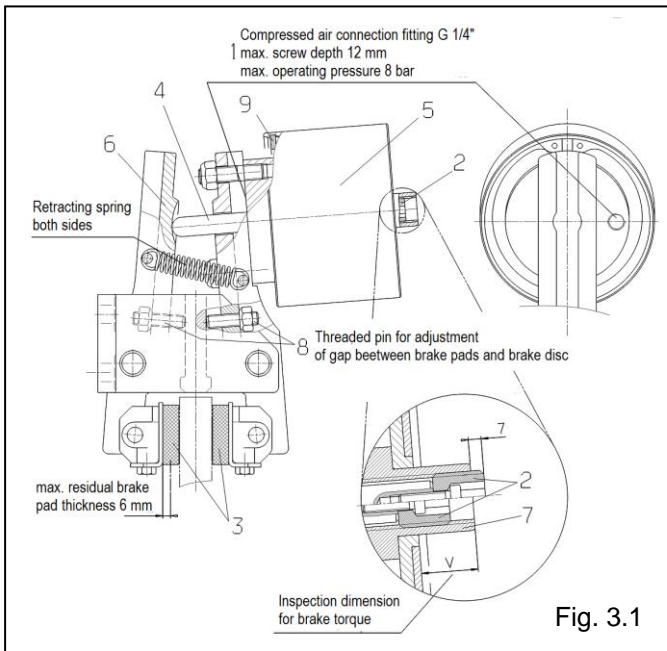

Fig. 3.1
- the DV 030 FPM, brake caliper mounted parallel to the brake disc (frame construction V see Fig. 3.1 in Section 3); brake chamber mounted on the right.
- by turning the push rod unit (2) back to a distance of approx. 7 mm from the face of the piston (7); see detail in Fig. 3.1, Section 3
Air hoses are connected (at 1, Fig. 3.1, Section 3) to the brake chamber with a G 1/4 " fitting (Whitworth threaded pipe, DIN ISO 228-1).